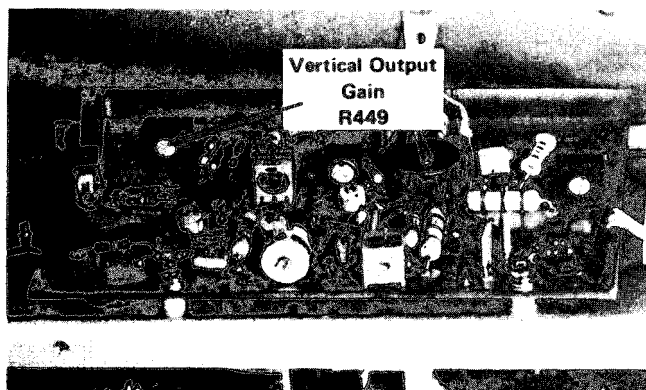

Fig. 5-13. Location of Vertical Output Gain adjustment.
m. ADJUST—Vertical Output Gain adjustment, R449 (see Fig. 5-13) for 5 divisions of deflection.